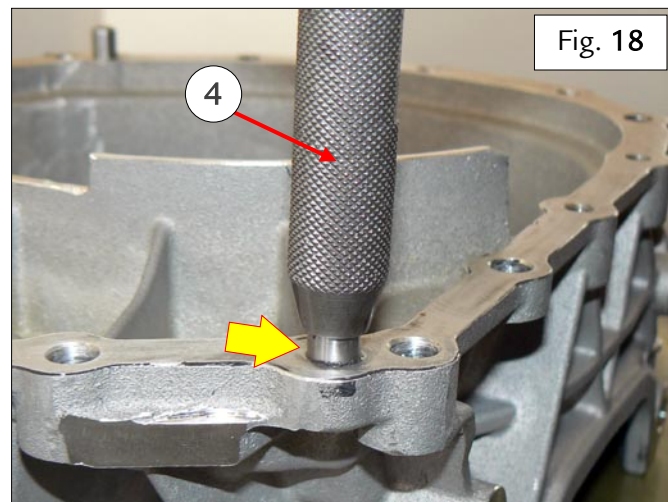

Fig. 18
- Using a suitable punch (4), install the indicated alignment pin in its seat so that protrudes by **12 mm** from the connector casing – Fig. 18.
- Perform the same procedure for the other alignment pin – Fig. 18.